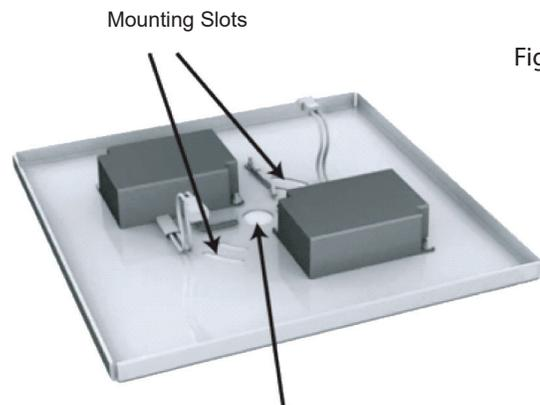

Fig. 2
2. Remove the necessary knockouts and mount the backplate to the junction box using the provided foam gasket and appropriate hardware (provided by others) for this application. (Fig. 2)
4. To secure the wireway cover, retighten the (4) screws. Make sure no wires are being pinched during this process and the gasket is set. (Fig. 2)